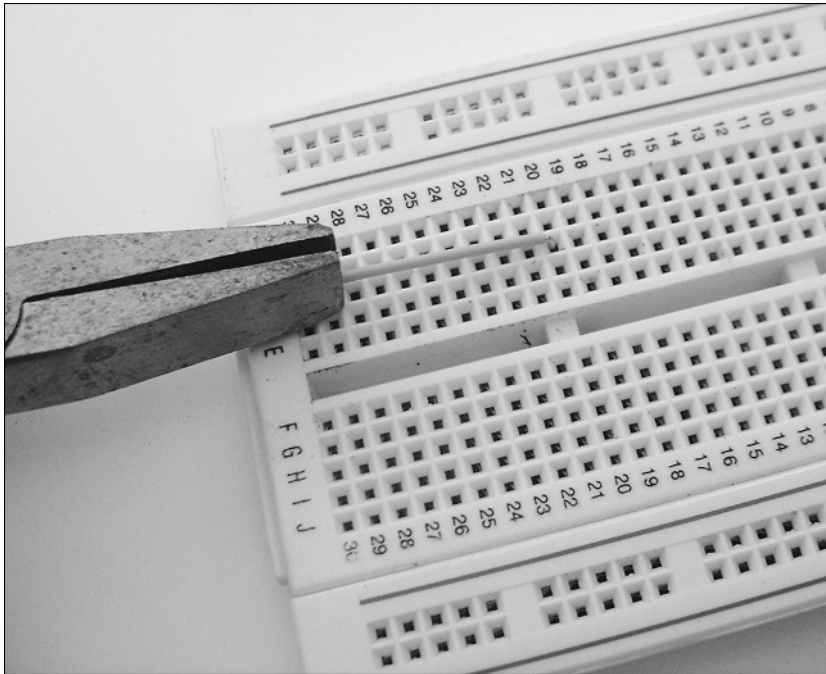

Figure 11-4:
- 3. After stripping the insulation, use a pair of needle-nosed pliers to bend the exposed ends of the wire at a 90-degree angle, as you can see in Figure 11-4.**